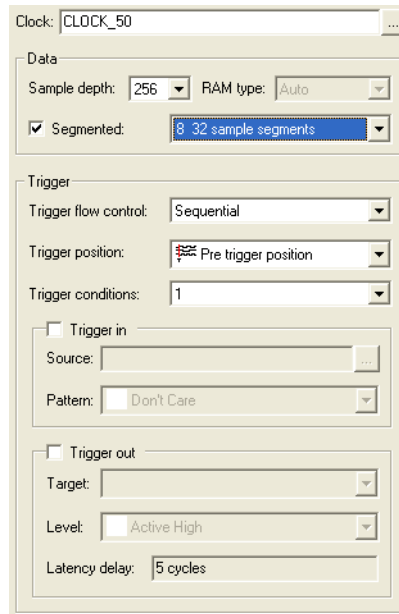

Figure 22. Select Segmented buffer acquisition mode with 8 32 sample segments
- In the Signal Configuration pane of the SignalTap II window, in the Data section of the pane check **Segmented**. In the dropdown menu beside Segmented, select 8 32 sample segments. This will result in a pane that looks like Figure 22.